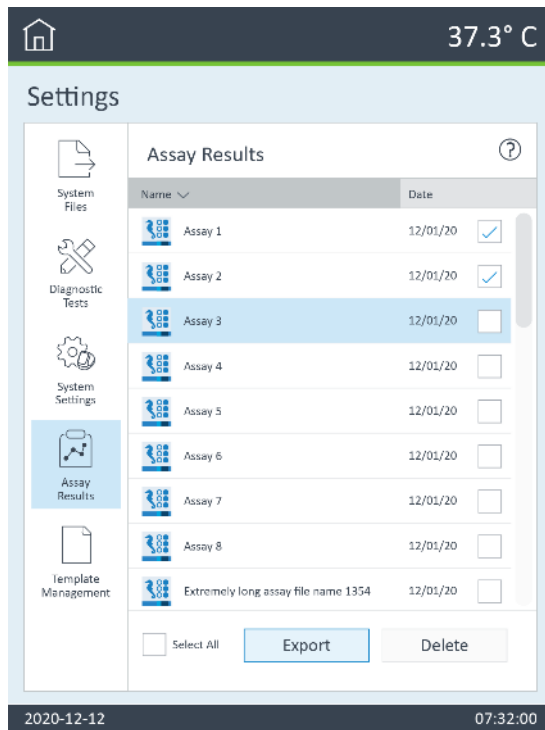

Figure 24. Assay results view.
- 1 Assay results:** Individual assay results can be viewed by clicking the small check box next to the result file to view and click **View**. See Figure 24.